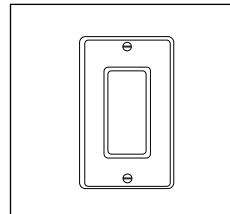

Figure 1
### ■ Wall switch light memory: (Figure 1)
- Low-profile use (Figure 1):
- **IMPORTANT:** Using a full range dimmer switch to control fan speed will damage the fan. To reduce the risk of fire or electrical shock, do not use a full range dimmer switch to control the fan speed. (Figure 1).